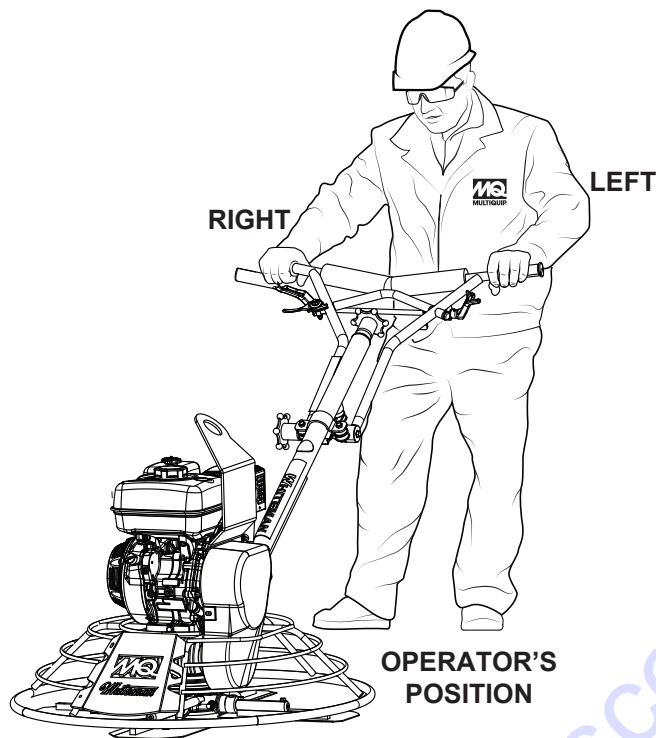

Figure 38. Operator's Position
1. With the engine running, stand in the operator's position (Figure 38) behind the trowel and grasp both hand grips securely.